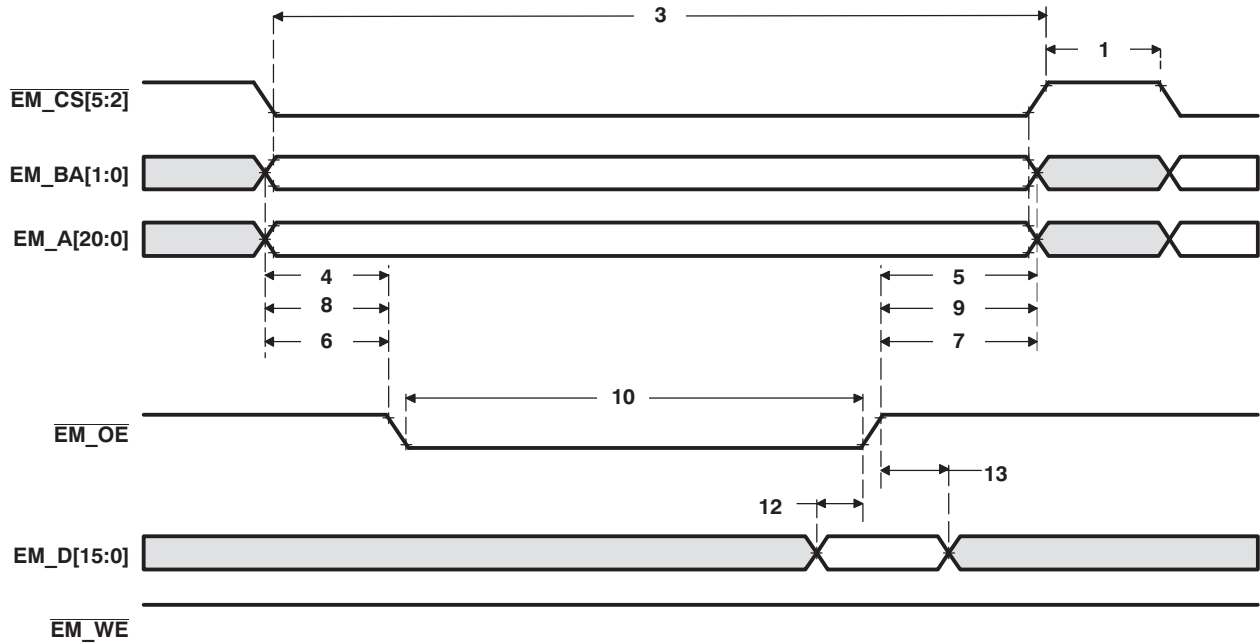
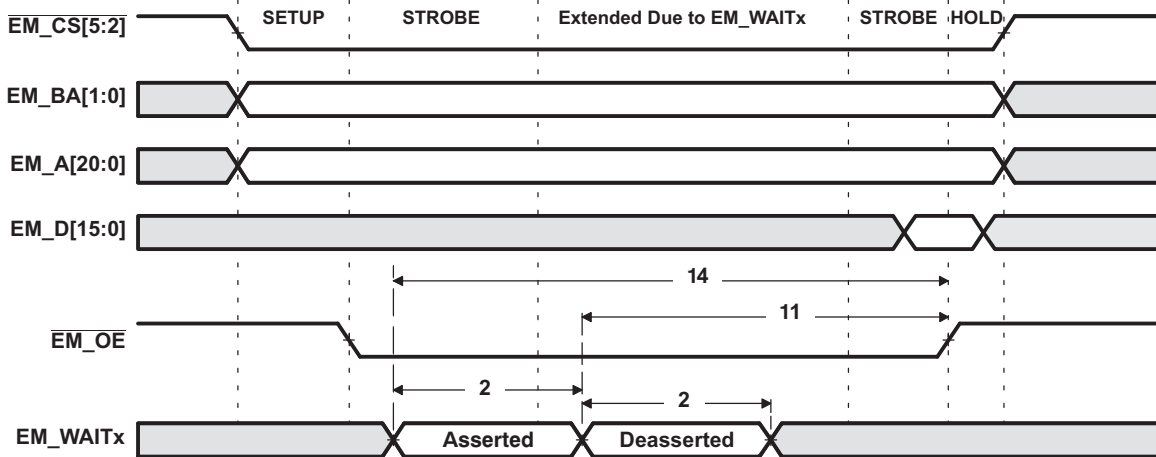
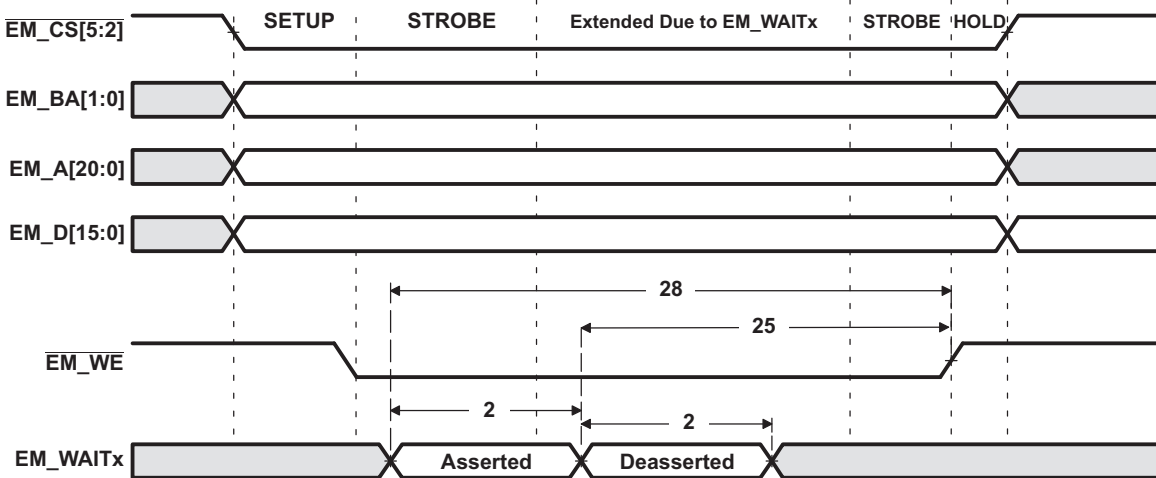

Figure 5-24. Asynchronous Memory Read Timing for EMIF
Figure 5-26. EM_WAITx Read Timing Requirements
Figure 5-27. EM_WAITx Write Timing Requirements
- (1) Timing parameters are obtained with 10pF loading on the EMIF pins.
(2) E = SYSCLK period in ns. For example, when SYSCLK is set to 75 or 200 MHz, E = 13.33 or 5 ns, respectively.
(3) Setup before end of STROBE phase (if no extended wait states are inserted) by which EM_WAITx must be asserted to add extended wait states. Figure 5-26 and Figure 5-27 describe EMIF transactions that include extended wait states inserted during the STROBE phase. However, cycles inserted as part of this extended wait period should not be counted; the 4E requirement is to the start of where the HOLD phase would begin if there were no extended wait cycles.
(see Figure 5-24, Figure 5-26, and Figure 5-27)
(see Figure 5-24, Figure 5-26, and Figure 5-27) (continued)
⁽⁴⁾ (see Figure 5-24, Figure 5-26, and Figure 5-27)
⁽⁴⁾ (see Figure 5-24, Figure 5-26, and Figure 5-27) (continued)**